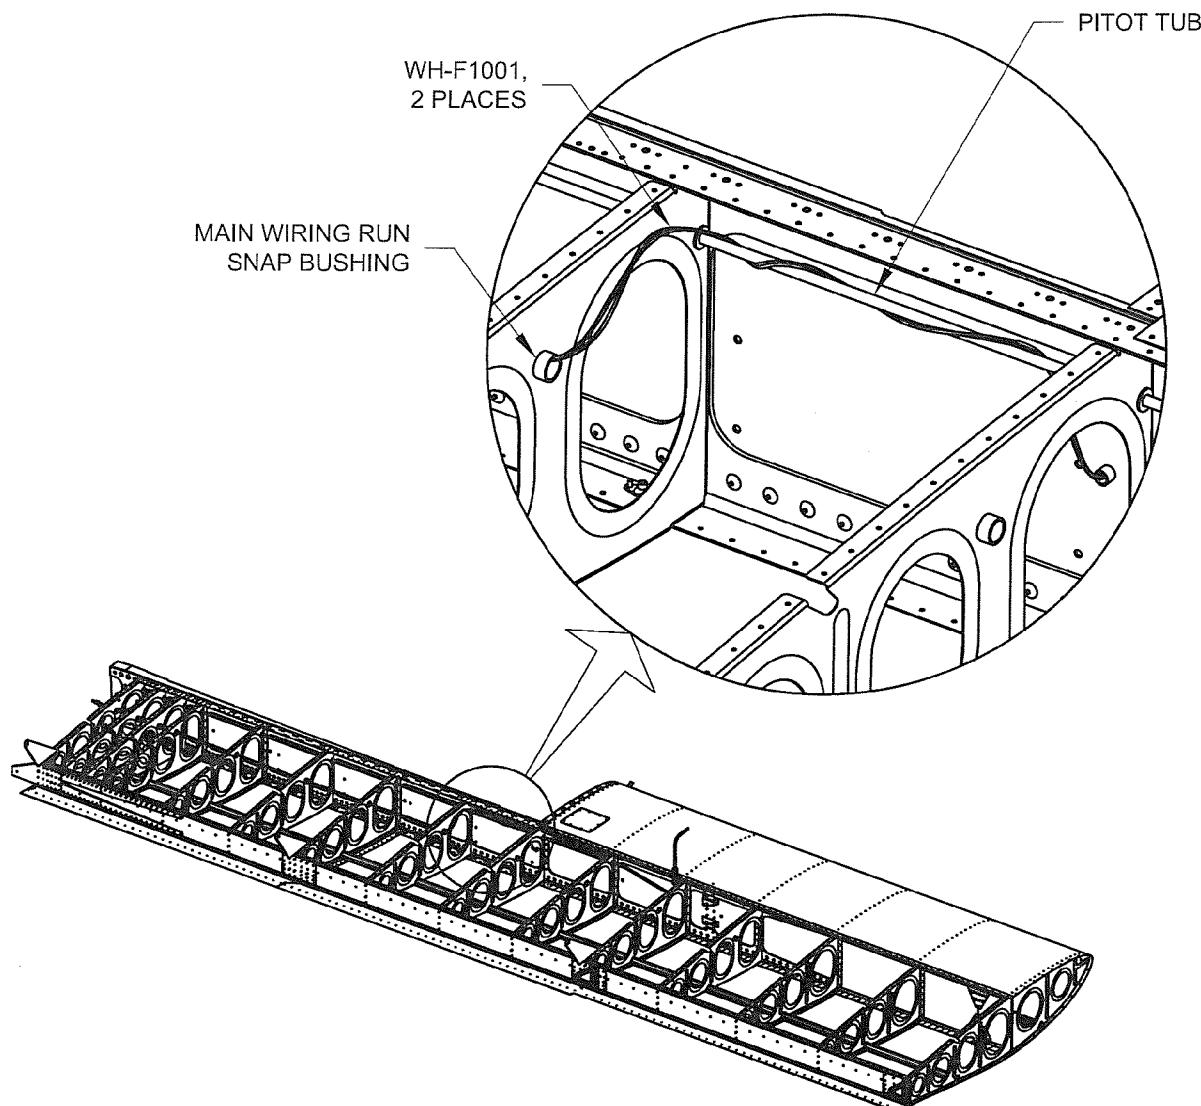

FIGURE 1: ROUTING WIRES INTO THE MAIN WING WIRE RUN
Step 1: To prevent the WH-F1001 Wires from interfering or rubbing on the W-1017A Stick To Bellcrank Pushrod wrap the wire around the pitot tube along the entire length of the rib bay as shown in Figure 1. Cross over from the pitot tube to the main wiring run snap bushing and to the root end of the wing assembly.